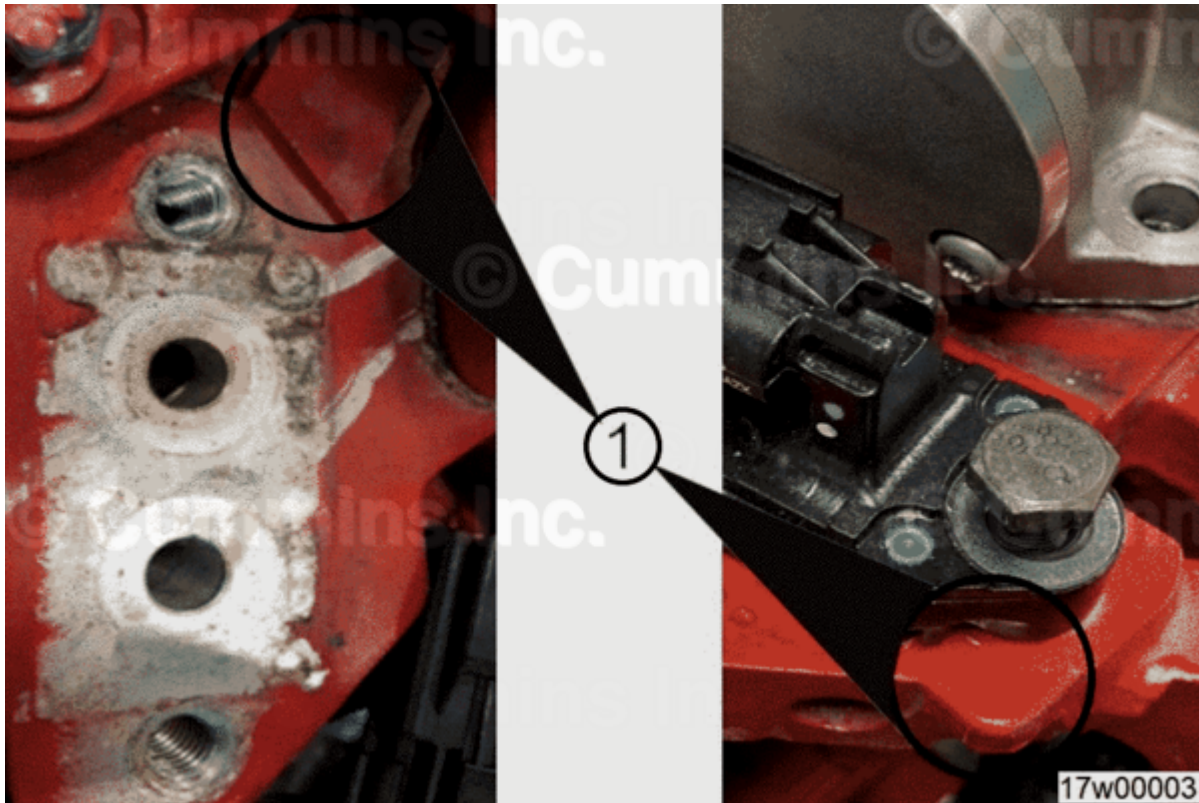

Figure 1, Examples Of Air Intake Connection Lips. Left: L9 Right: B6.7.
- The air intake connection has a lip and provides reference as to the correct orientation of the differential pressure sensor. The air intake connection lip can look different on different engines families. Two examples of the air intake connection lip are shown in Figure 1 below. Verify if there is interference between the differential pressure sensor and the lip on the air intake connection. See Figure 2 below.